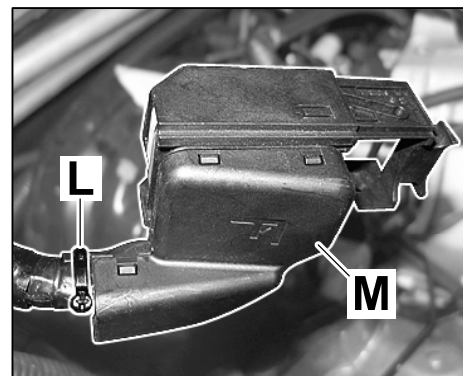

Figure 41
- 8.6.4 Fit cover ⇒ Figure 41 -M- and secure with a tie-wrap ⇒ Figure 41 -L-.